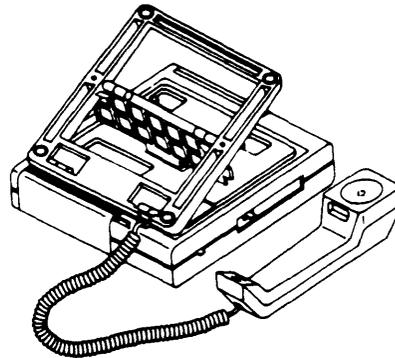

Figure 2
3. Gently slide the stand upward so that the voice terminal tabs fit firmly into the smaller part of the three mounting slots (see Figure 2).